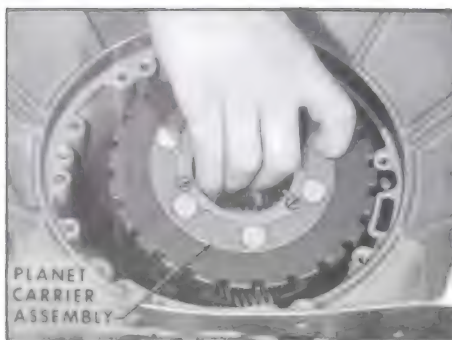

Figure 5-308
3. Install planetary gear set into case. See Figure 5-308.